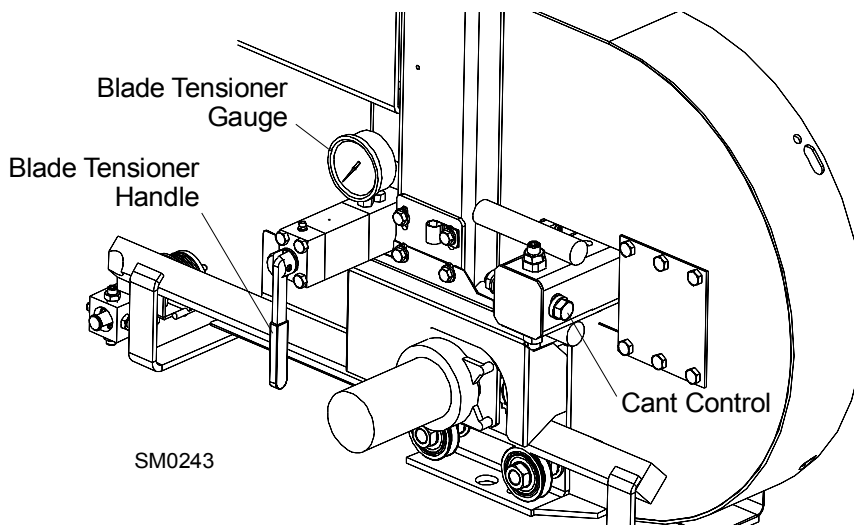

FIG. 2-5
See Figure 2-5. Tension the blade by turning the hydraulic tensioning handle clockwise until the tension gauge indicates the recommended tension.
5. To adjust where the blade travels on the blade wheels, use the cant control shown in Figure 2-5.